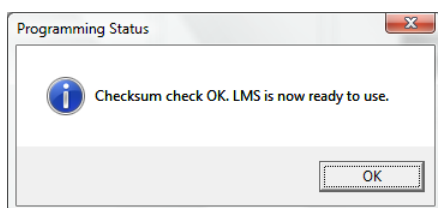

Figure 7. Checksum OK
8. A message box is shown to remind the user to turn on the **OUTPUT POWER** on the LPC, see Figure 7.